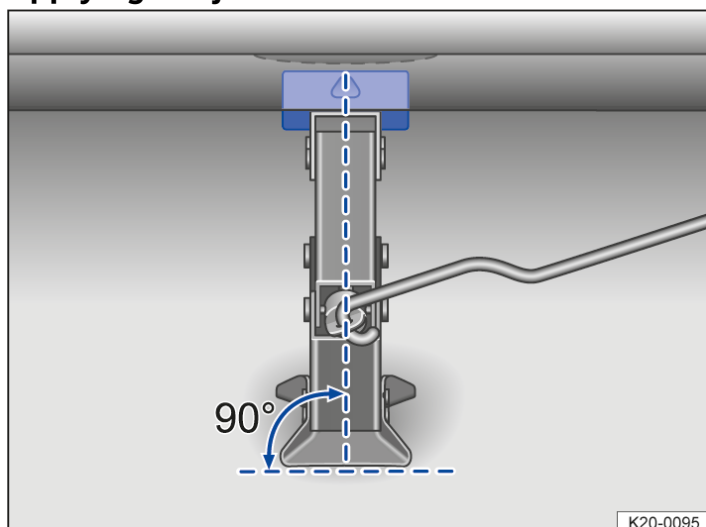
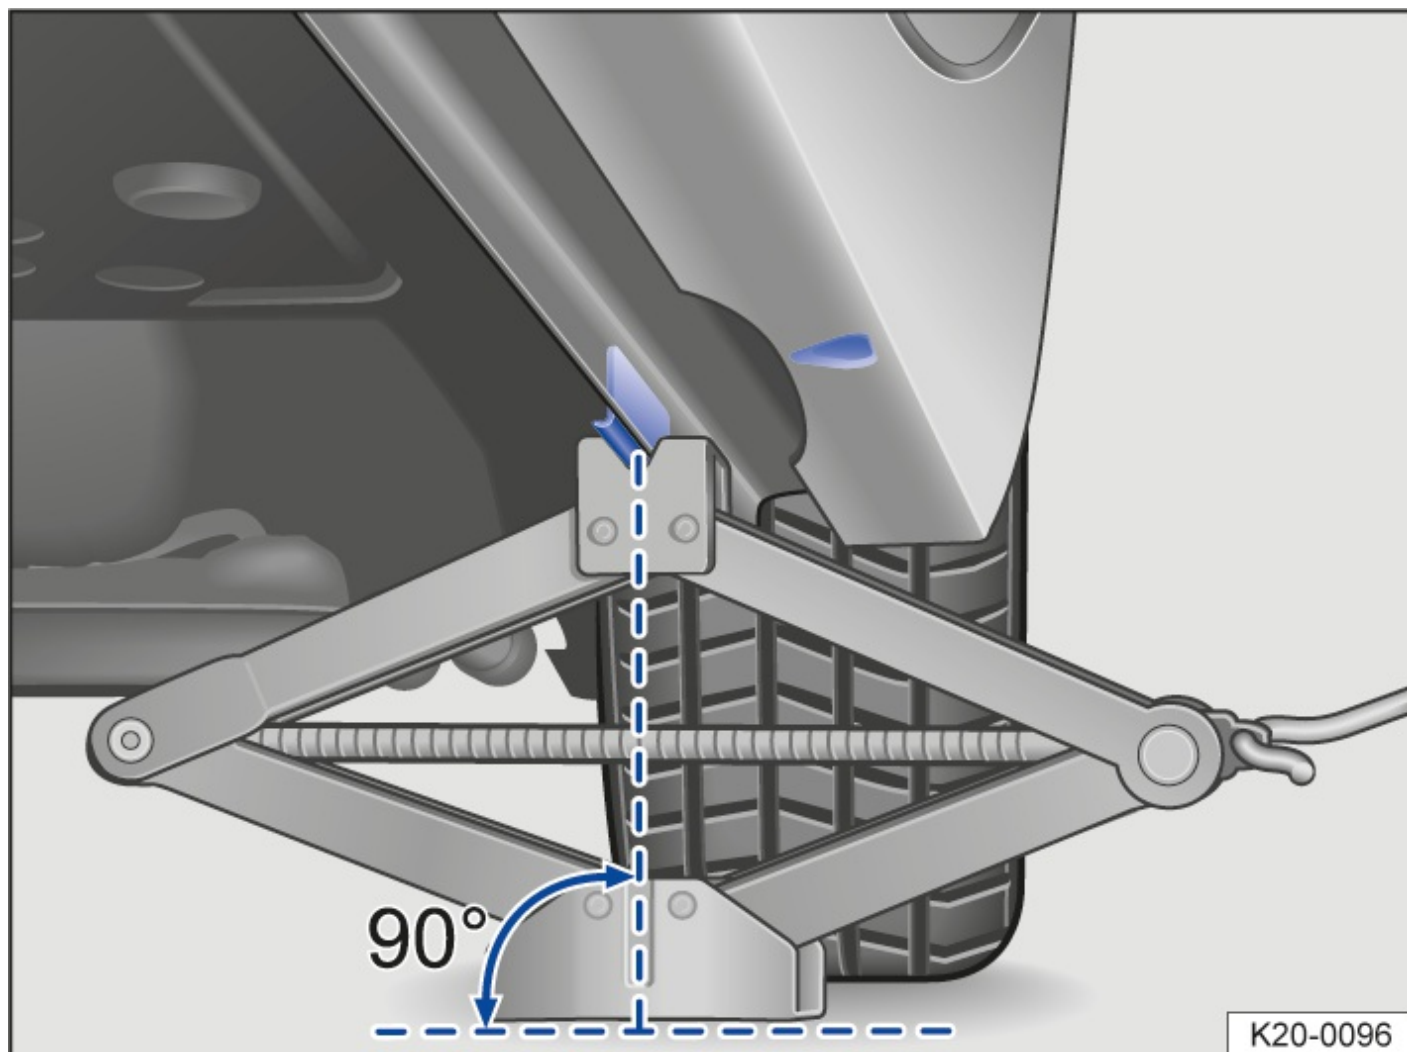

Fig. 2 Correct alignment of the jack.
Fig. 3 Scissors jack applied at the rear on the left-side of the vehicle.
13. Make sure that the entire surface of the foot of the jack is resting securely on the ground and that the foot of the jack is positioned vertically directly beneath the jacking point → Fig. 2 and → Fig. 3.
14. Position the jack and simultaneously continue to crank the claw up until it is in position around the vertical rib underneath the vehicle → Fig. 3.